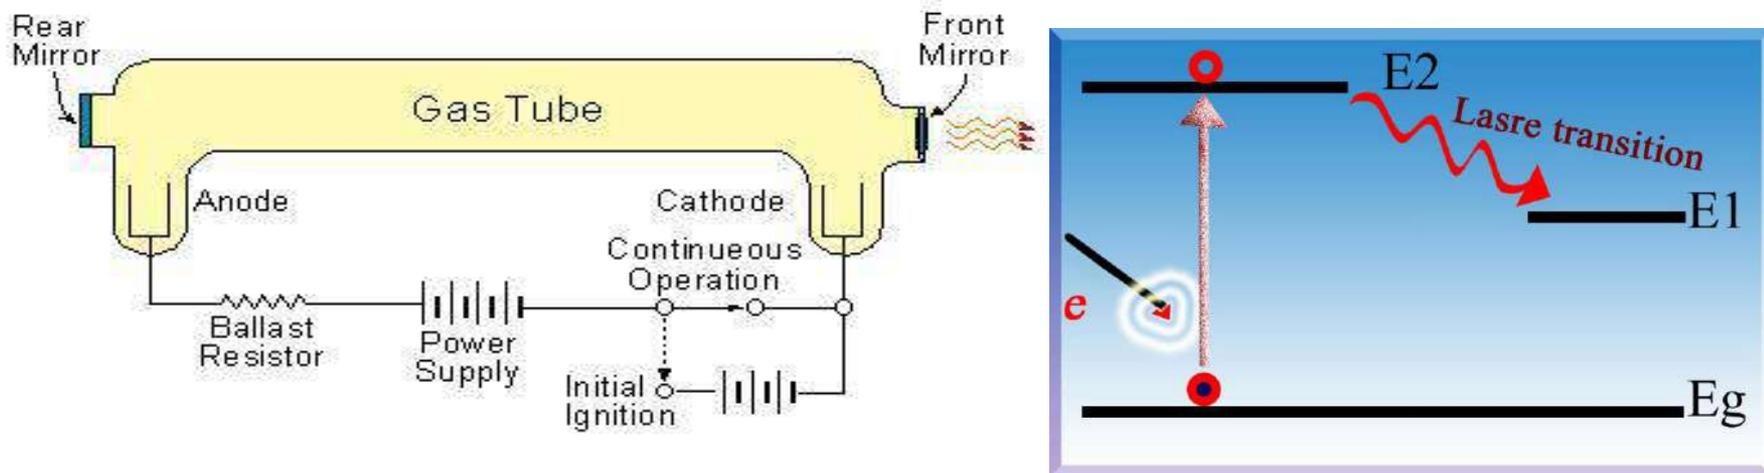

Figure 3.3: Electrical Excitation of a Gas Laser
- When the active medium is in the gas state, the best excitation is by electrical discharge of the gas (Fig.3.3)